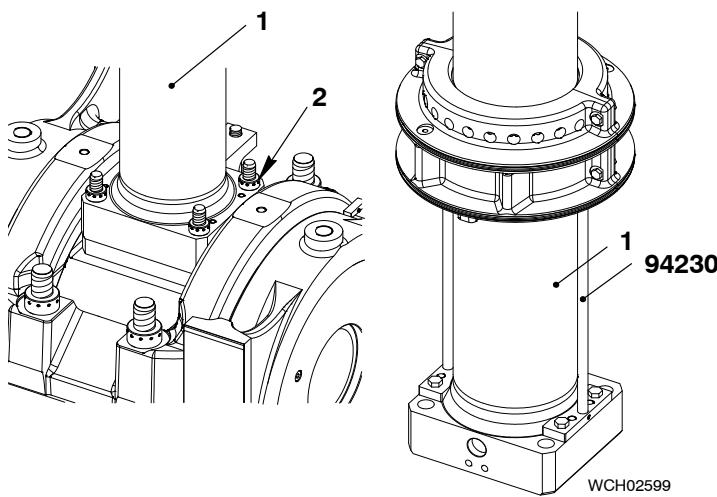

Fig. 12
- 24) Remove the distance holders (94230, Fig.12).
- 25) Tighten the round nuts (2) on the piston rod foot (1). See the procedure in 9403-4.